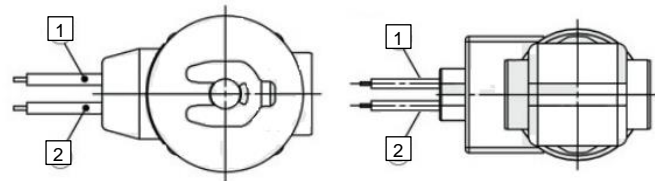

Figure 4. Grommet and Grommet with PCB
- Do not bend the lead wires beyond 90° with a radius of less than 20mm or damage may occur. See figure 4.